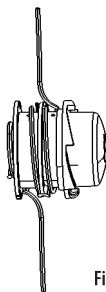

Fig. 24
1. Press the "PUSH" button on trimmer head to disassemble the release tabs inward to unlock them from the upper cover, and then pull out the spool retainer, double the line and hang it and rotate it on the spool retainer, (Fig. 24&25).